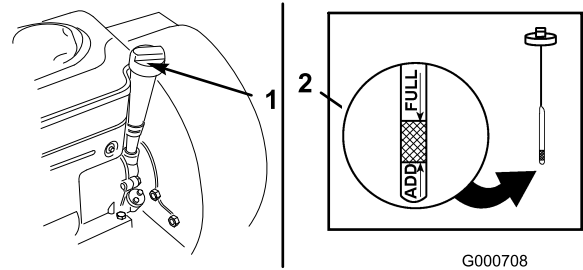

Figure 26
3. Clean around the oil dipstick and remove it (Figure 26).